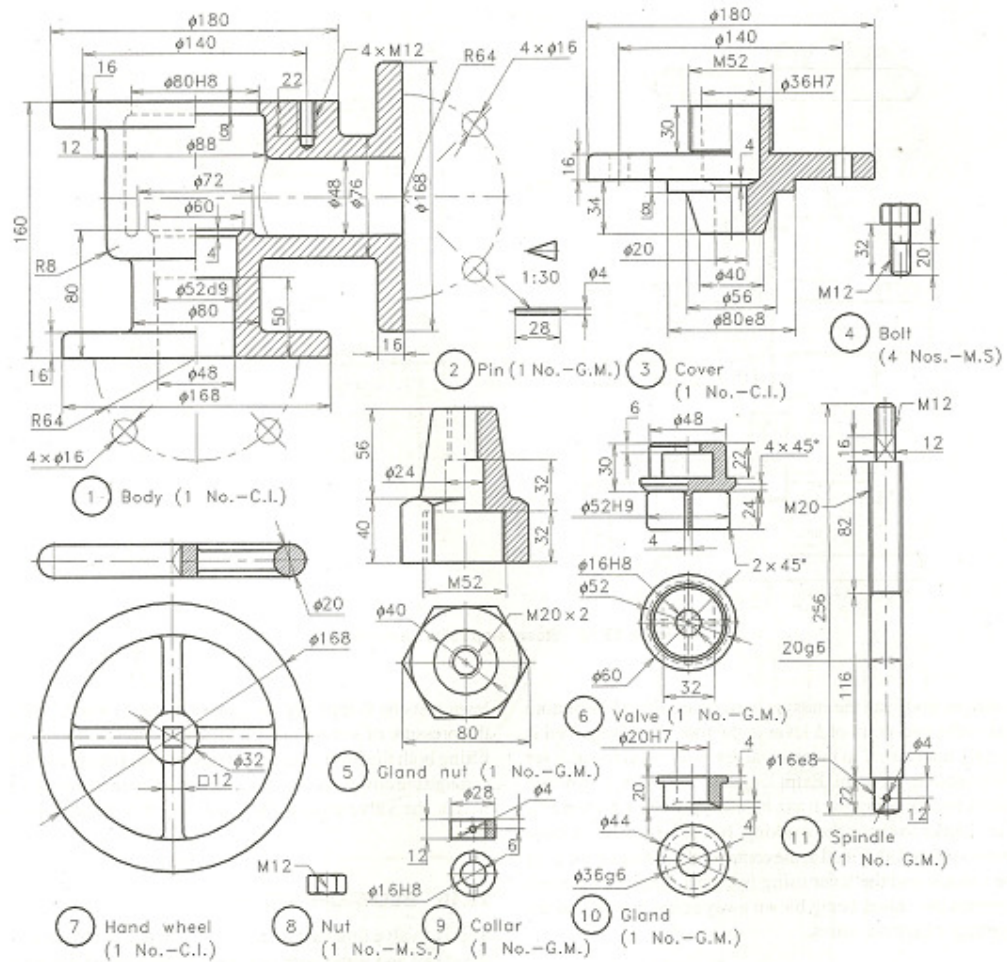

Figure 2 – STEAM STOP VALVE
4. Parts of a simple type steam stop valve are given in figure 2. Assemble them and draw the following views: